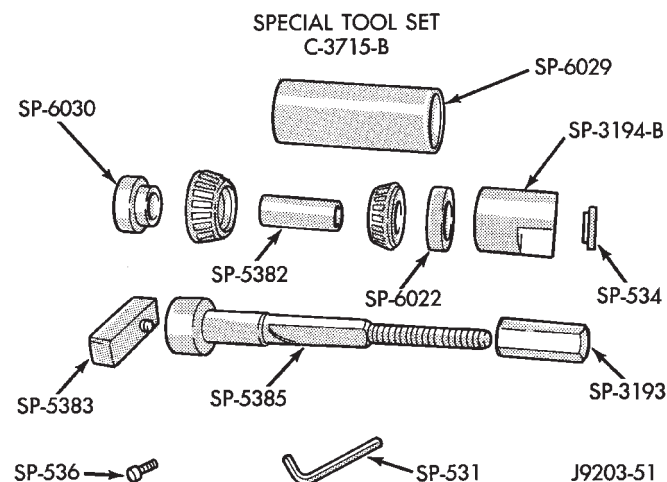

Fig. 69 8 1/4 Axle Pinion Adjustment Tools
- (1) Install front pinion bearing cup. Use Installer D-130 and Handle C-4171.
- (2) Install rear pinion bearing cup. Use Installer C-4308 and Handle C-4171.
- (3) Use Pinion Gear Adjustment Gauge Set C-3715-B (Fig. 69).
- (4) Position Spacer SP-6030 over Shaft SP-5385.
- (5) Position pinion rear bearing on shaft.
- (6) Position tools (with bearing) in the housing.
- (7) Install Sleeve SP-5382.
- (8) Install pinion front bearing.
- (9) Install Spacer SP-6022.
- (10) Install Sleeve SP-3194-B, Washer SP-534, and Nut SP-3193.